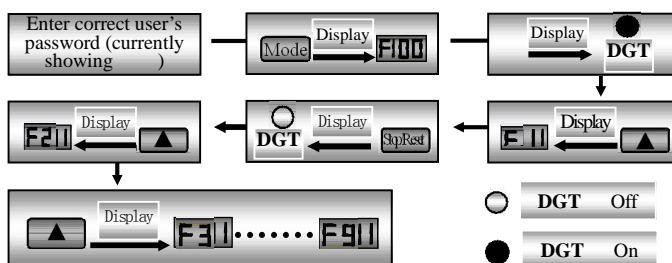

Fig 2-2 Switch over in a Code Group or between Different Code-Groups
e.g. when function code shows F111, DGT indicator will be on. Press “ ”/“ ” key, function code will keep increasing or decreasing by degrees within F100~F160; press “stop/reset” key again, DGT indicator will be off. When pressing “ ”/“ ” key, function codes will change circularly among the 10 code-groups, like F211, F311...FA11, F111..., Refer to Fig 2-2 (The sparkling “ ” is indicated the corresponding target frequency values).